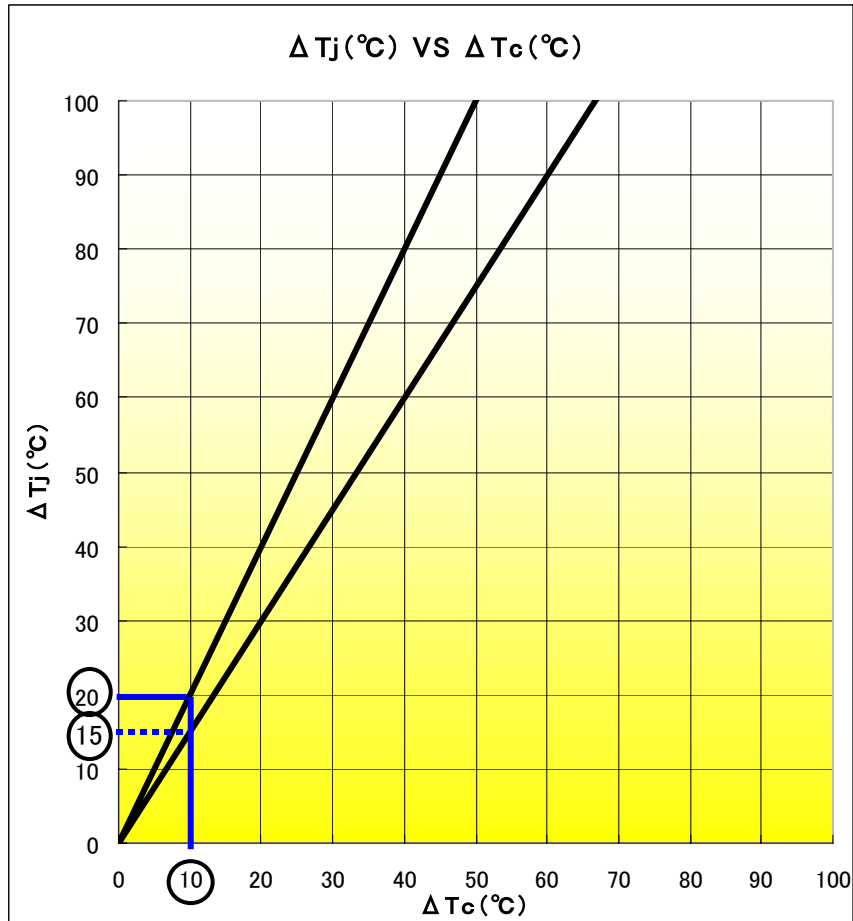

Fig.5. Tj-Tc correlation
As was previously mentioned, Tj and Tc have a constant relationship with a certain width differential. The correlation between Tj, which is calculated by using the Rja from the Vf measurement method, and Tc, which is calculated by using actual measurements, is introduced by the graph indicated in Fig.5.
As you can perceive from Fig. 5, the gradient of the line will be within 1.5~2 when using a general PCB. For example, when $T_a=25^\circ\text{C}$, 100mA , $T_c=35^\circ\text{C}$, then $\Delta T_c=35^\circ\text{C}-25^\circ\text{C} = 10^\circ\text{C}$. In this case, by using the graph above, $\Delta T_j=15\sim 20^\circ\text{C}$, therefore, $T_j=T_a+\Delta T_j=40\sim 45^\circ\text{C}$.
- Based on the experimental results of Type A, B, C and D, you can infer that the gradient has a constant range as indicated in Fig.5.